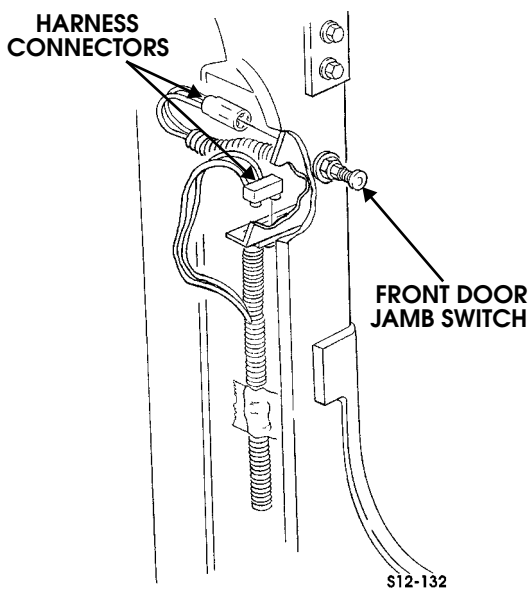

Figure 12-107: Door Jamb Switch
- Disconnect roof harness connector from right front door jamb switch (Figure 12-107).
8. Connect roof harness connector to right front courtesy light, if removed (Figure 12-107).